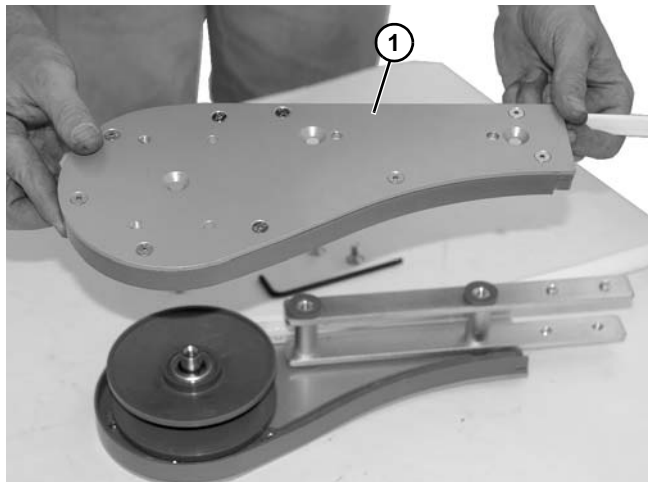

Figure 115
4. Remove the head plate (**Figure 115, item 1**) from the idler end.